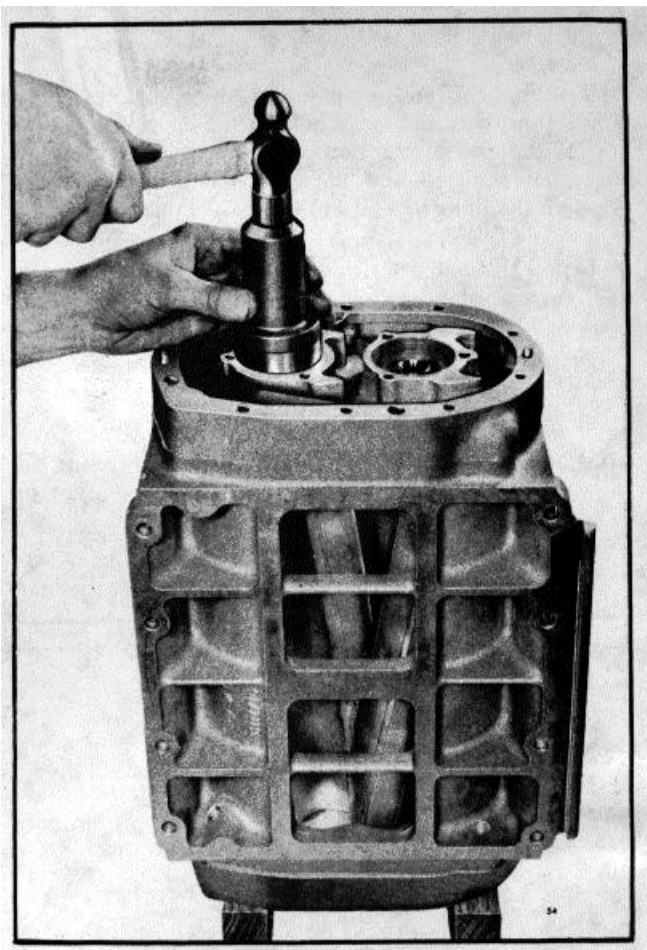

Fig. 14 - Installing Ball Bearing on Rotor Shaft and in Rear End Plate using Tool J 6270-7.
- a. Reverse the position of the blower housing on the two wood blocks. (Fig. 14).
- c. Place installer J 6270-7 on top of the bearing and tap the bearing straight on the shaft and into the rear end plate as shown in Fig. 14.